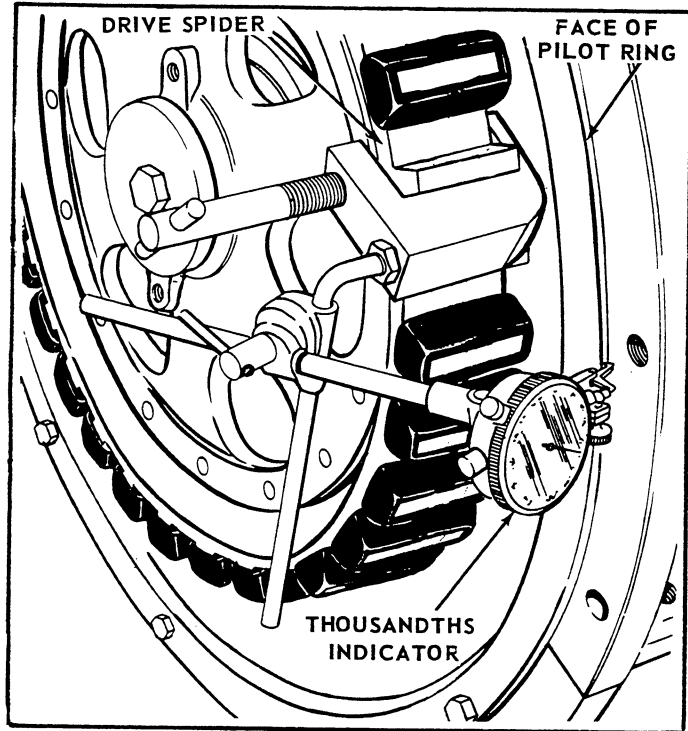

Figure 64. Checking the Pilot Ring for Runout.
C. Checking Marine Gear Pilot Ring. With the indicator bolted as in Paragraph 56B above, adjust the indicator stem so that it will ride on the pilot surface of the flange (Fig. 64). Rotate the drive spider and note the pilot surface runout must not exceed .010 inch for the SAE No. 0 flange, or .008 inch for the SAE No. 1 flange. This applies to a continuous 270 degree arc if the balance of the pilot surface is is